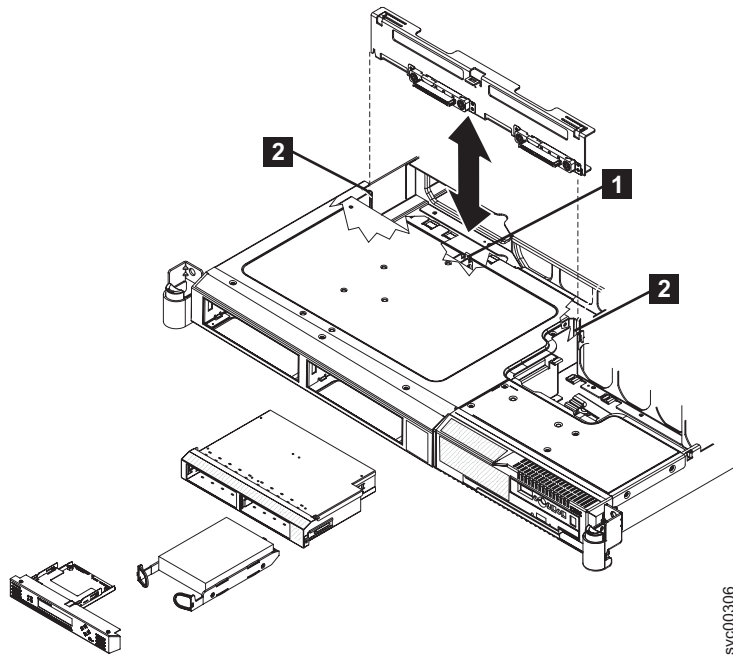

Figure 129. The SAN Volume Controller 2145-8G4 SATA disk drive and backplane
2. Slide the backplane into the mounting channels **2**, which are shown in Figure 129 on page 141, making sure not to trap or pinch any nearby wires or cables.